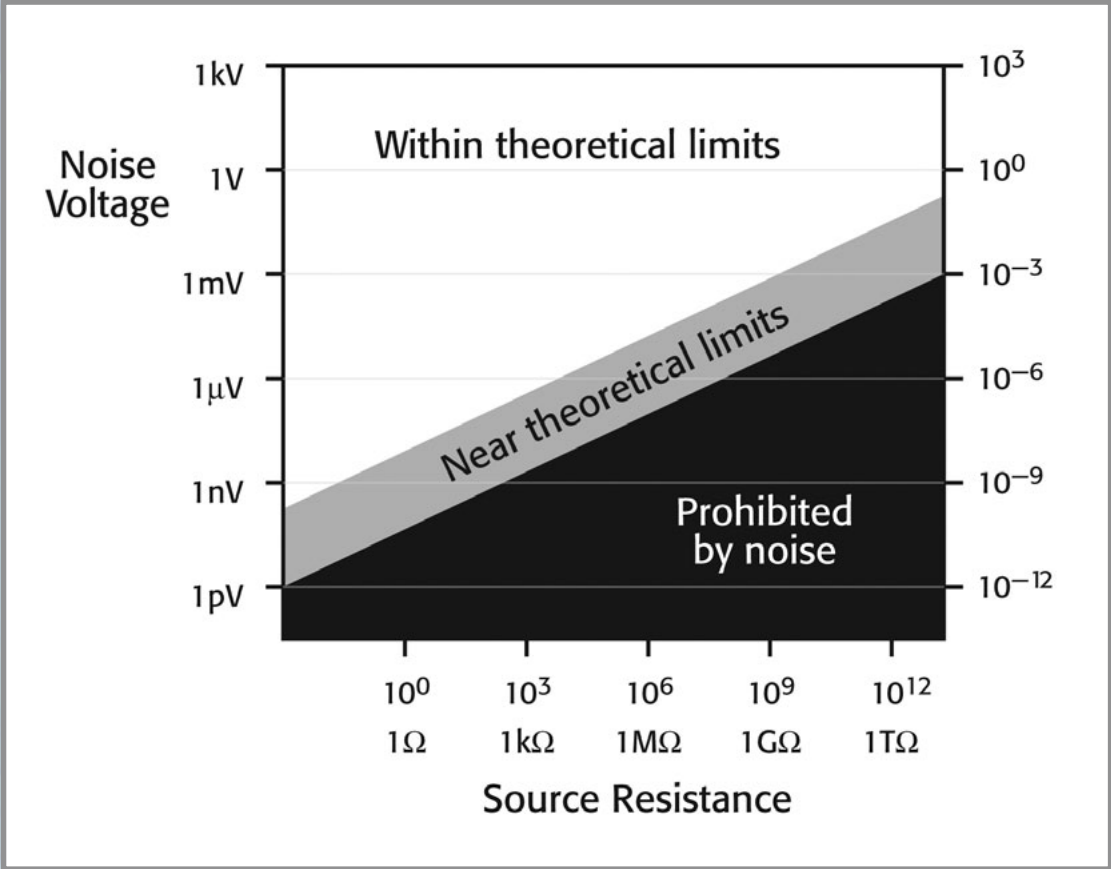

Figure 6
■ **Theoretical measurement limits.** The laws of physics provide a fundamental limit of how low a signal can be resolved because every system will generate some level of voltage and current noise. **Figure 6** identifies the levels of voltage that are impossible to measure, as well as the levels approaching the theoretical limits of voltage measurement.